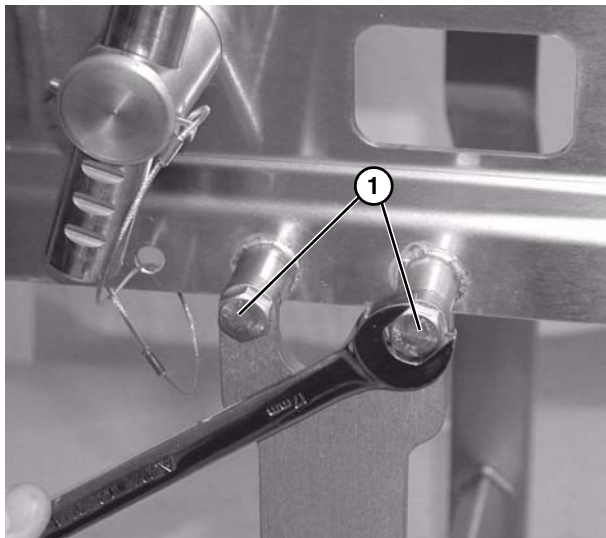

Figure 34
2. Attach the stands to the frame (**Figure 34**).
3. Tighten hex screws (**Figure 34**, item 1).